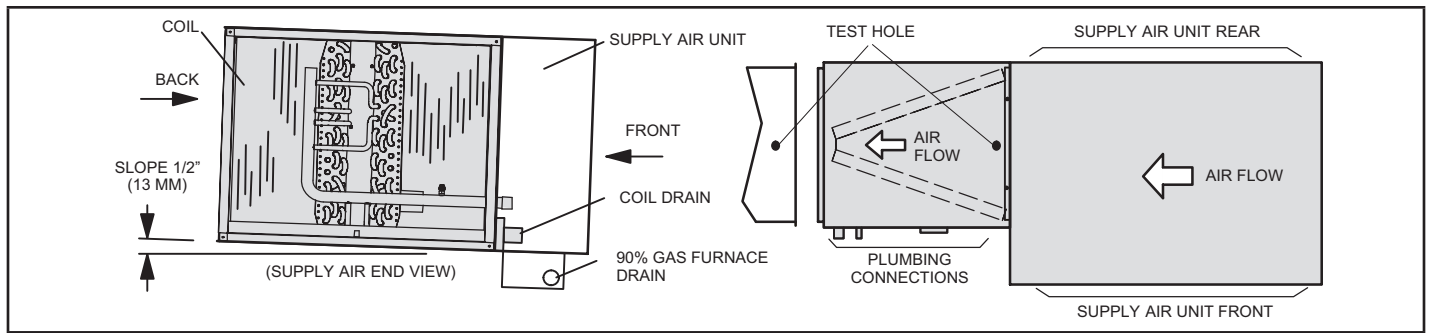

FIGURE 3. Left-Hand Air Discharge
- 1 - **Left-Hand and Right-Hand Discharge** - The coil must have a 1/2" slope from the rear of the cabinet to the drain. Position the coil adjacent to the furnace cabinet and align the six screw clearance holes in the coil casing with the furnace engagement holes. Use six field-provided #8 X 1" screws to secure the coil casing to the furnace (see figures 3 and 4).